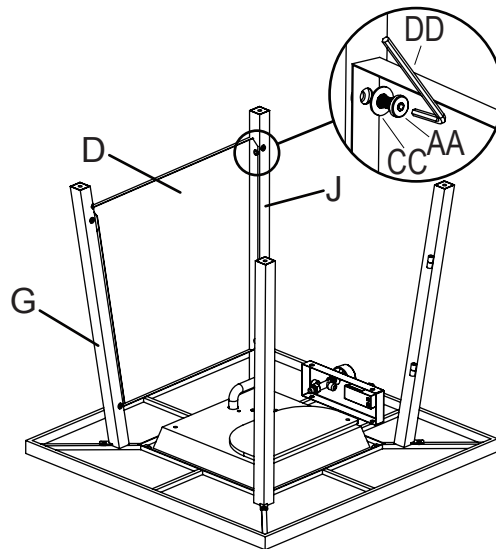

Figure 3
3. Attach left panel (D) to back-left leg (G) and front-left leg (J) with bolts (AA) and washer (CC) using hex screw driver (DD), (see Figure 3).